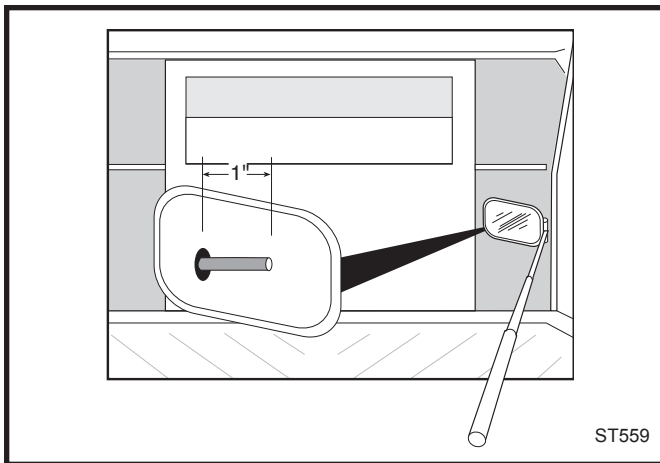

Fig. 17 Use an inspection mirror to check the secondary probe.
- While the catalytic element is removed, check the condition of the secondary air probe. Use an inspection mirror to locate the probe within the combustion chamber. (Fig. 17) The probe should extend 1 to 1½” (25 - 38mm) into the chamber and show no signs of deterioration, (warping, short length). Refer to the next illustration. A damaged secondary air probe could affect catalytic performance. If the probe needs to be replaced, call your local dealer.